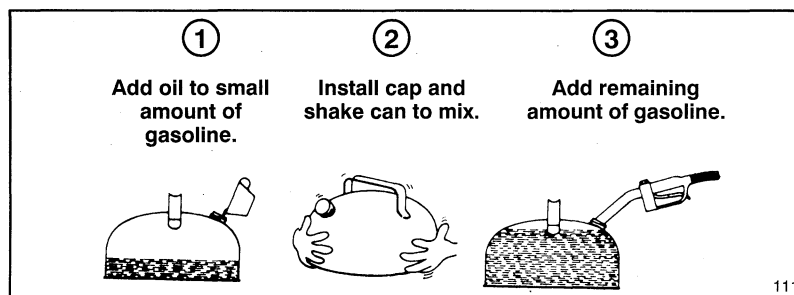

Figure 8
2. Mixing Gasoline and Oil (Fig. 8)—Pour half a gallon of gasoline into an approved gasoline container and add correct amount of two-cycle oil. Reinstall cap on gasoline container and shake the container to mix oil and gas thoroughly. Remove cap and add remaining amount of gasoline.